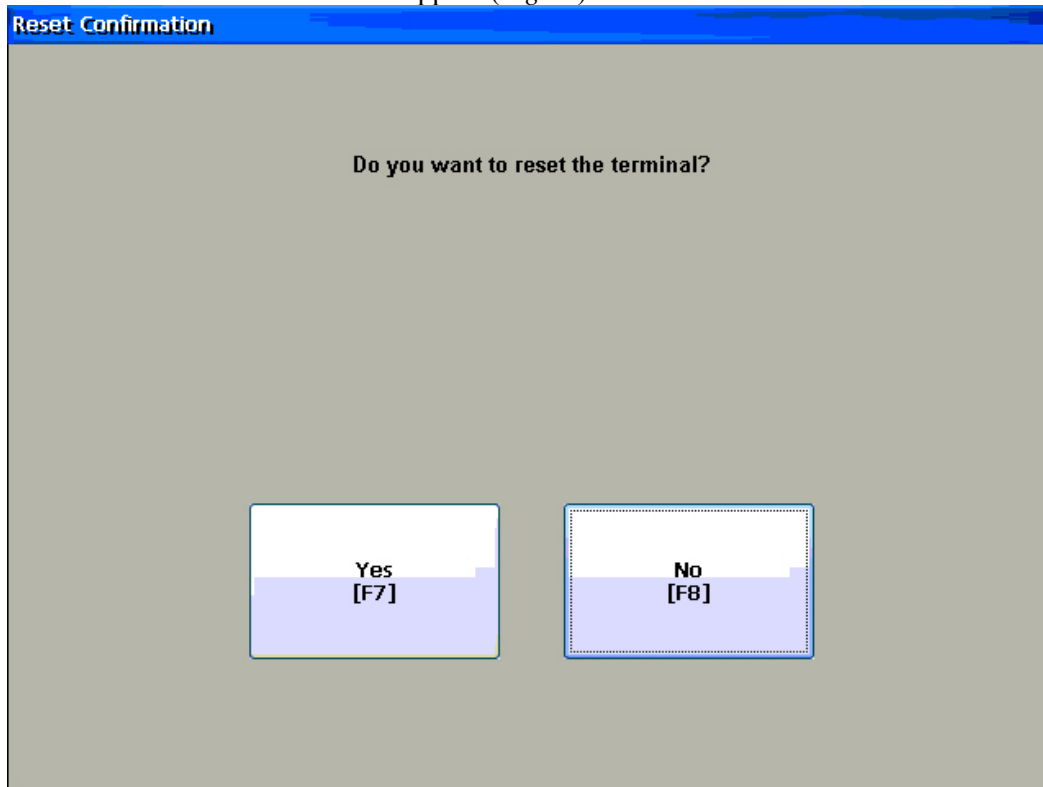

Fig 32
57. A Reset Confirmation screen will appear (*Fig 32*).